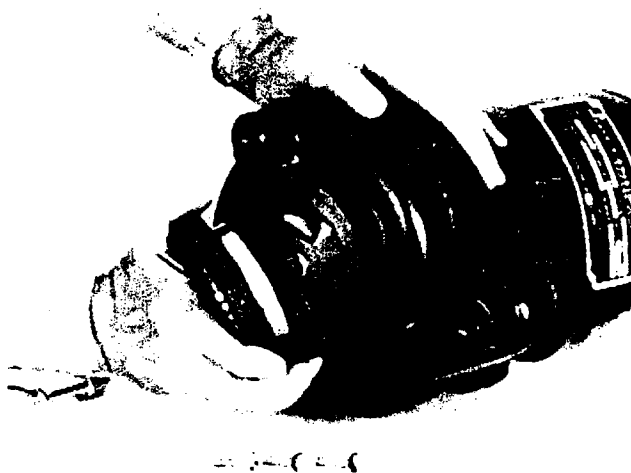

Fig. 5
4. Use large screwdriver in slot in end of shaft and bump on cutter vane with plastic hammer. Bump in counterclockwise direction as thread is right hand. It may take several bumps to loosen impeller. See Fig. 5